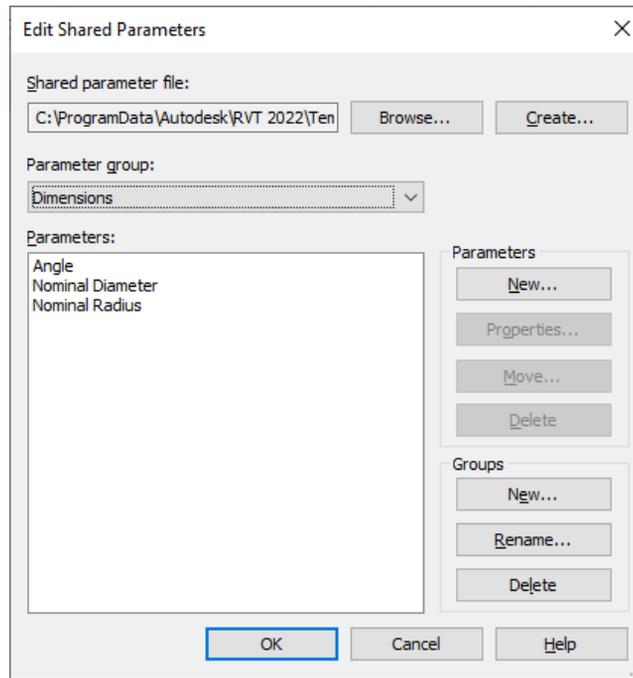

Figure 2-31 The *Edit Shared Parameters* dialog box
- e. Create the project parameter, refer to Figure 2-31.
1. Choose the **Shared Parameters** tool from the **Settings** panel of the **Manage** tab; the **Edit Shared Parameters** dialog box is displayed, refer to Figure 2-31.